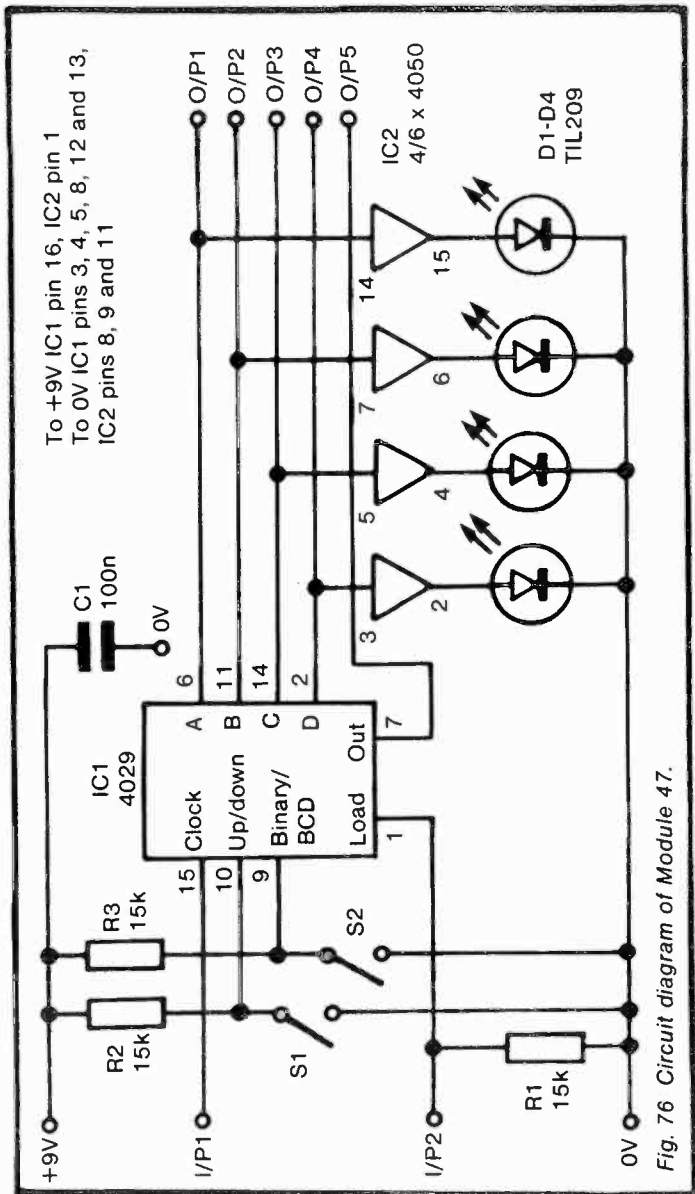

Fig. 76 Circuit diagram of Module 47.
*Circuit diagram:* see Figure 76.